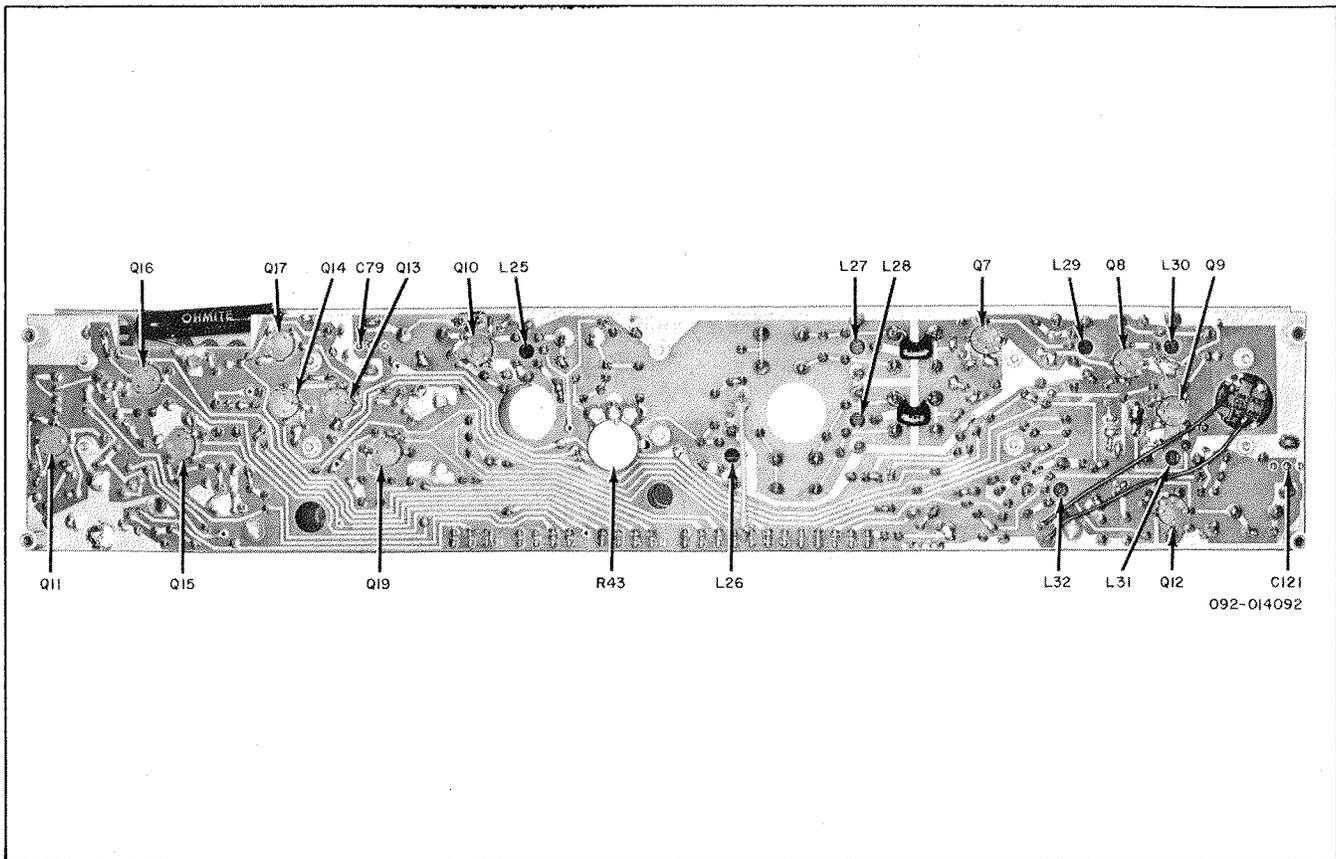

Figure 16. View of IF Board.
- 5. Connect a 1000-ohm resistor with a lead between the 9-volt line on the bottom connector board and point on the IF board. (See figure 16.)